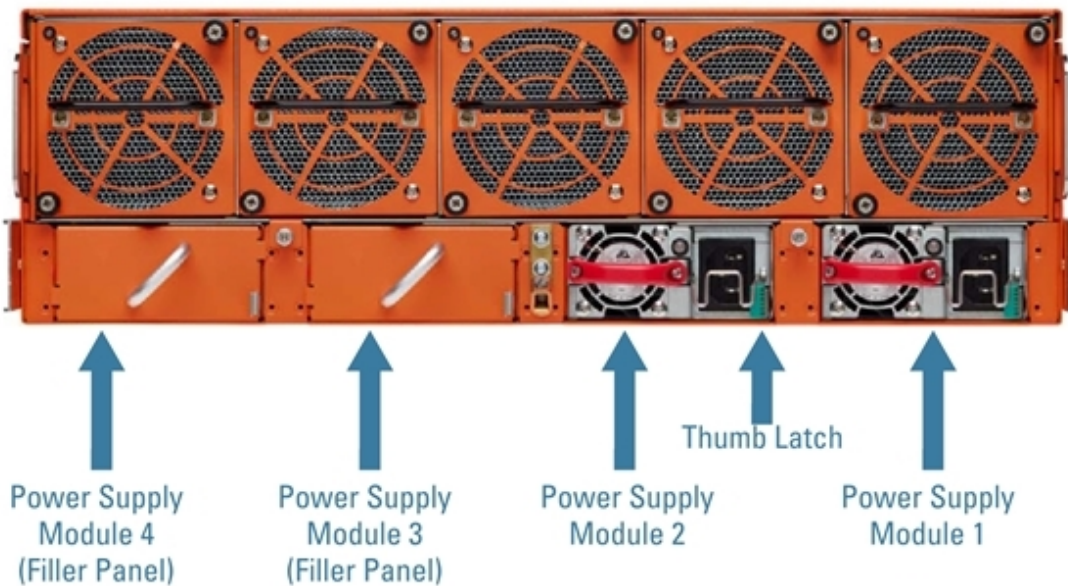

Figure 5 *Power Supply Modules (AC Version Shown)*
3. Carefully slide the first PSM into the matching receptacles at the lower rear of the node (Figure 5 Power Supply Modules \(AC Version Shown\)). Push gently to seat the PSM firmly in the chassis until the thumb latch snaps into place.
NOTE: If using two PSMs, leave filler panels in as shown in Figure 5 Power Supply Modules \(AC Version Shown\). The filler panels aid in air flow distribution. If a PSM fails, leave it in the chassis.